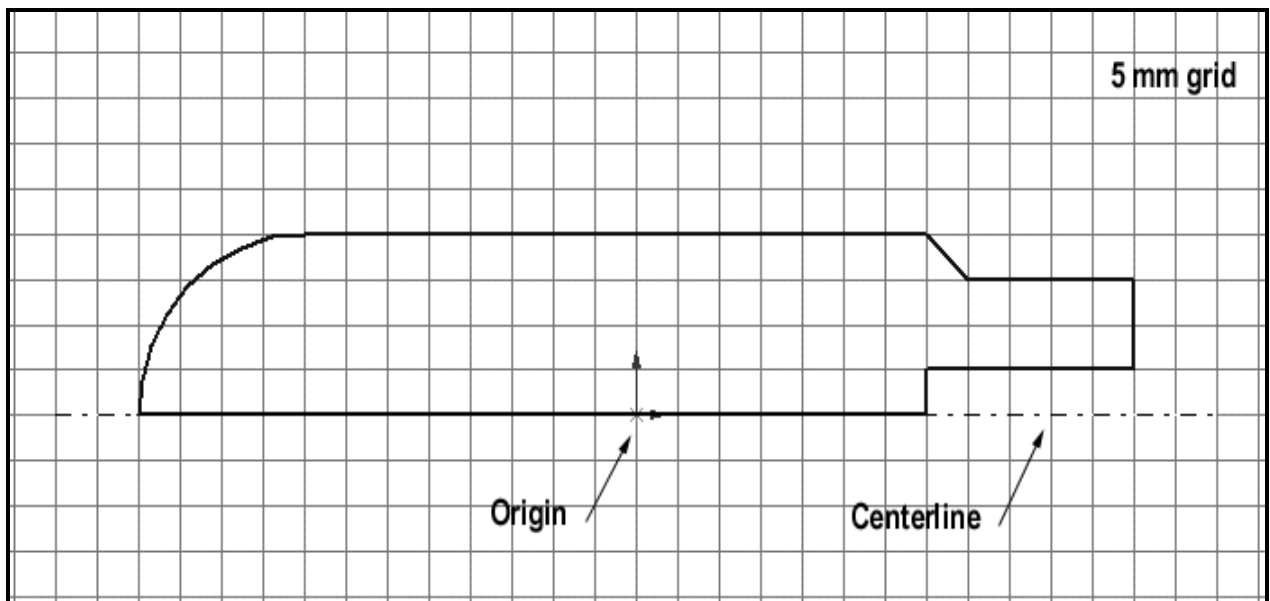

Figure 1-37. The 2-D Sketch for the Machine Handle.
In the previous exercises, the parts were designed using English units (inches). Metric, or System International (SI), units are also common in engineering practice. In this Exercise 1.4, the Machine Handle will be designed using millimeters as the basic units (see **Figure 1-37**). In addition, because of the round symmetry of the machine handle, you will create a **Base Revolve** using the 2-D sketch rather than a base extrude.
Pick a **Front** plane and click the **Sketch** icon to start your sketch. The screen area should show a metric grid with spacing every 5 millimeters. You may need to **Zoom** in. Using the **Centerline**, **Line** and **Centerpoint Arc** tools, sketch the enclosed 2-D profile shown in **Figure 1-37**.